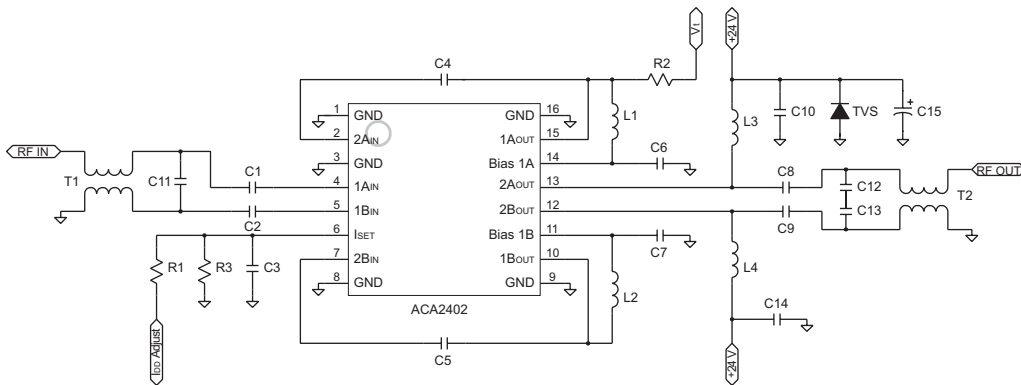

Figure 17: Evaluation Board Schematic
(1) Measured with baluns on the input and output of the device.
(2) Parts measured with 77 channels flat output, +42 dBmV per channel.
(3) Parts measured with 110 channels flat output, +40 dBmV per channel.
(4) Parts measured with 128 channels flat output, +40 dBmV per channel.
(5) The supply current may be reduced by decreasing the value of R3 (see Figure 17).